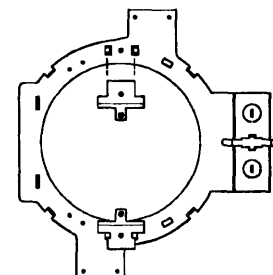

Fig. 9
2. Slide both trim mounting brackets under lined up tabs located on mounting frame as shown (See Fig. 9). Holes are provided to permanently attach bracket (optional).